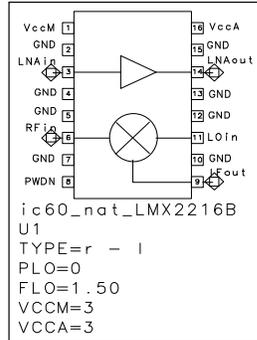
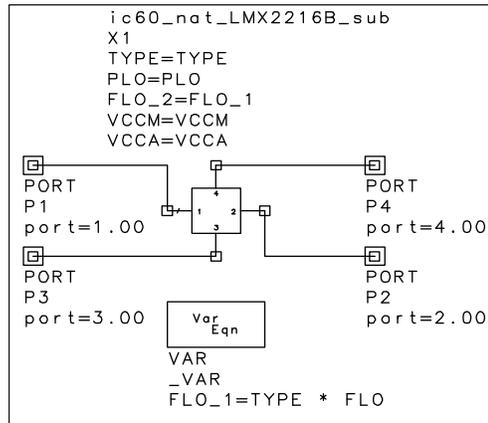

Figure 1. LMX2216B Main Schematic Symbol
Figure 3. LMX2216B Subnetwork (pushed into ic60_nat_LMX2216B)
The model requires the user to enter values for its model parameters shown with Figure 1. These values are then passed to the model's subnetwork and sub-subnetwork, and also to the MDIF files. The variables that appear in the VAR lines of MDIF files are called "KeyWords" in OmniSys. In the OmniSys model, the user can associate the user-entered model parameters with proper VAR values by using an MDIFLIST data item as shown in Figure 2--creating this data item is explained in the next sections. The names for KeyWords must match the names that appear with the VAR lines in the MDIF files. The "Values" for KeyWords can be either a value entered by the user or defined by an equation in schematics. The KeyWord values passed to the MDIF files are then used to select the appropriate data blocks for interpolation and calculate S-parameters and output frequency.
The MDIF files and KeyWords defined in the previous sections are all tied together by building the model schematics. The model for the LMX2216B consists of a main schematic symbol and two subnetworks. The schematic symbol is re-shown below along with the two subnetworks in Figures 3 and 4.
One of the KeyWords for the mixer, `_FLO`, has `FLO_2` as its value which is defined with an equation. This equation is part of the subnetwork shown in Figure 3. Again, a new variable for `_FLO` was necessary to combine the mixing type and LO frequency. This new variable is used with the option lines of the `.s2d` files to calculate correct output frequencies depending on the mixing type. In the subnetwork, `FLO_1` is defined as `TYPE * FLO`, and then `FLO_1` is passed to the sub-subnetwork as `FLO_2`. Once the basic structure and the subnetworks of the model are built, the schematic symbol can be created as displayed in Figure 1. With the symbol complete, the user can use the model with other elements in OmniSys by connecting the ports to other models and entering necessary parameters.
Defining Equations and Passing Parameters --Subnetwork (Figure 3)
The purpose of the subnetwork is to define a new variable and pass the values to the sub-subnetwork. The steps below summarize how an equation variable block can be used to define a variable. Also demonstrated in these steps is attaching parameters to a network. These parameters created here are attached to the sub-subnetwork, although they appear in the subnetwork schematic. The schematic in Figure 3 shows that five parameters are attached to the sub-subnetwork *ic60_nat_LMX2216B_sub*.
7. Double-clicking on the sub-subnetwork element will bring the parameter dialog box so that the parameter values can be entered as shown in Figure 3. Now the necessary parameter values are passed to the sub-subnetwork.
11. Click on **Parameters...** to add parameters for the model, as illustrated in the previous section. For the example used here, these are the five parameters shown in Figure 1.